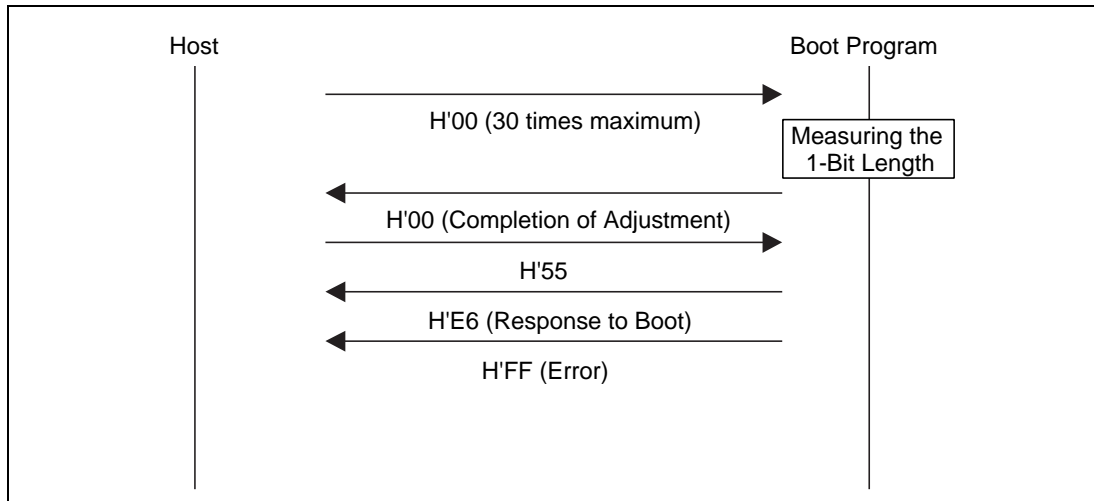

Figure 18.24 Bit-Rate-Adjustment Sequence
- (1) When programming addresses which have previously been programmed, apply auto-erasing before auto-programming (figure 18.24).
- (2) When using PROM mode to program a chip that has been programmed/erased in an on-board programming mode, auto-erasing before auto-programming is recommended.
- (3) Do not take the chip out of the PROM programmer or reset the chip during programming or erasure. Flash memory is susceptible to permanent damage since a high voltage is being applied during the programming/erasing. When the reset signal is accidentally input to the chip, the period in the reset state until the reset signal is released should be longer than the normal 100 μ s.
- (4) The flash memory is initially in the erased state when the device is shipped by Renesas Technology. For other chips for which the history of erasure is unknown, auto-erasing as a check and supplement for the initialization (erase) level is recommended.
- (5) This LSI does not support modes such as the product identification mode of general purpose EPROM. Therefore, the device name is not automatically set in the PROM programmer.
- (6) For further information on the PROM programmer and its software version, please refer to the instruction manual for the socket adapter.
The bit rate is calculated by measuring the period of transfer of a low-level byte (H'00) from the host. The bit rate can be changed by the command for a new bit rate selection. After the bit rate has been adjusted, the boot program enters the inquiry and selection state. The bit-rate-adjustment sequence is shown in figure 18.24.